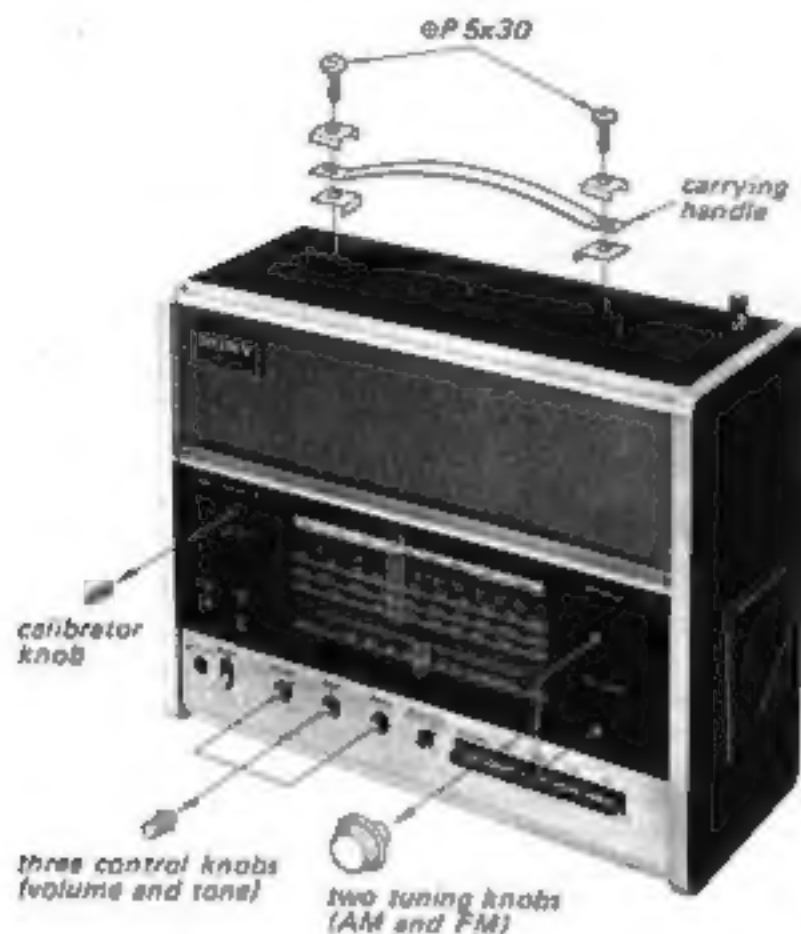

Fig. 2-1
1. Pull off the six knobs shown in Fig. 2-1.
2. Remove the two screws and carrying handle as shown in Fig. 2-1.